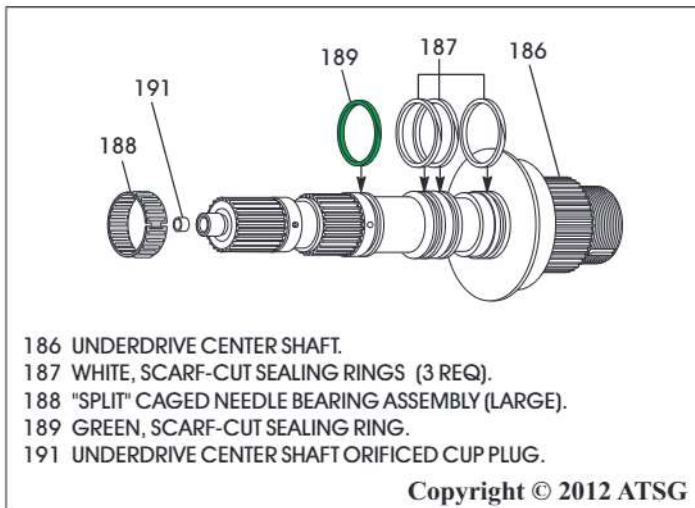

Figure 132
14. Remove the 4 scarf-cut sealing rings and large "split" caged needle bearing from the underdrive center shaft, as shown in Figure 132.